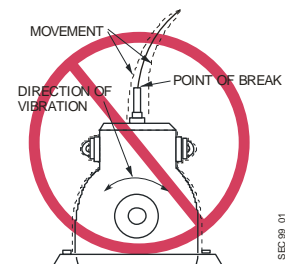

Figure 1: Incorrect SEC99 Installation
- Install the capillary so that it moves in the same direction as the vibration. See Figure 1.